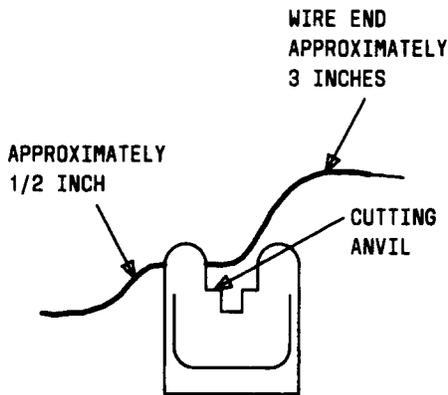

Fig. 4—94-Type Connecting Block With Dressed Conductor
3.05 Dress individual conductors at right angles to the side of the 94-type connecting block. The conductor should have a minimum of no less than 1/2-inch slack before entering the block and approximately a 3-inch long stub after entering the block. (See Fig. 4.)